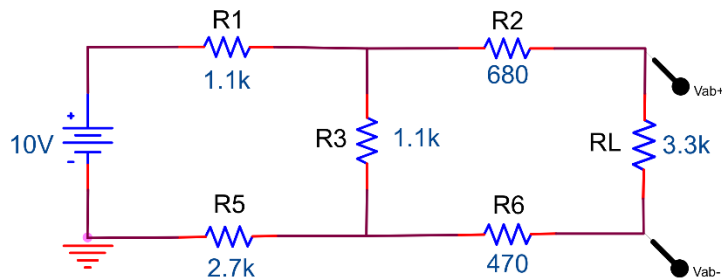

Figure 6.8
1. Construct the circuit of Figure 6.8. Measure the voltage, V_{ab} .